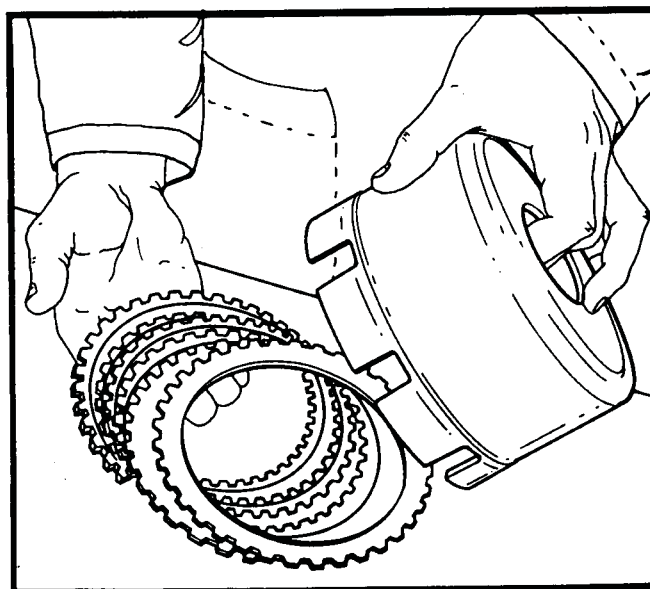

Figure 146
2. Turn the housing over to remove the entire reverse input clutch pack, as shown in Figure 146.